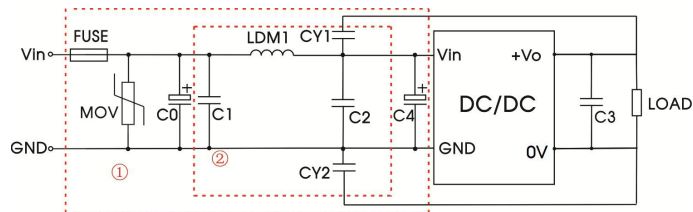

Fig. 3
Notes: For EMC tests we use part ① in Fig. 3 for immunity and part ② for emissions test. Selecting based on needs.